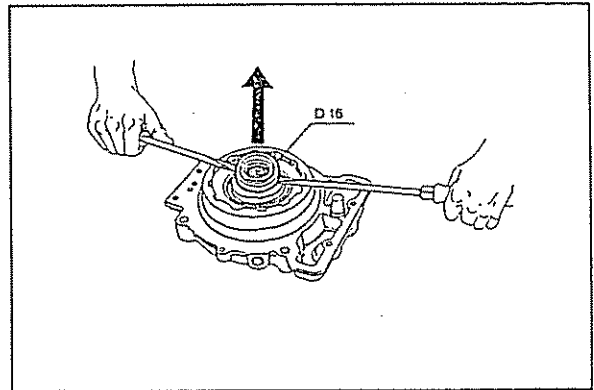

Figure B7
2.11 Using 2 (two) suitable screw drivers positioned directly across from each other remove the bronze retaining bushing (T3-2 #25) from the tower. Figure B7.